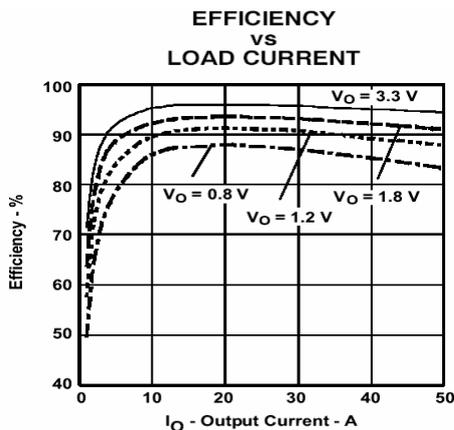
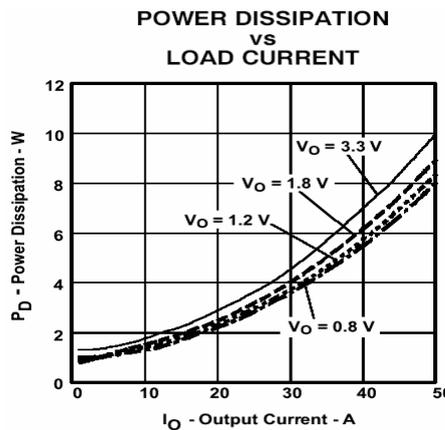

Figure 5
Figure 6
- (3) The electrical characteristic data has been developed from actual products tested at 25°C. This data is considered typical for the converter. Applies to Figure 5, and Figure 6.